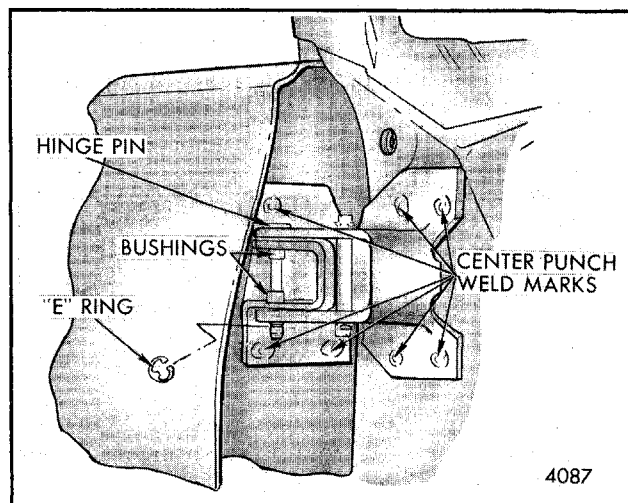

Fig. 5-88-Front Door Hinge "E" Ring Removal - "X" Styles
1. Remove "E" ring (snap retainer) from lower end of both upper and lower hinge pins (Fig. 5-88).
4. Center punch visible weld marks on hinge base as shown in Figure 5-88 and drill a 1/8" pilot hole completely through welds at center punch marks.